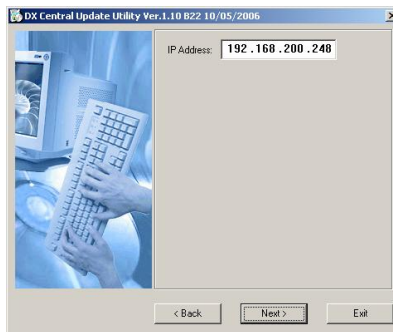

Figure 60 DX Central Update Utility box
2. The default IP address of the DX Central appears. If the IP address is different, type in the correct IP address and click **OK**. The DX Central Update Utility box appears see Figure 60.